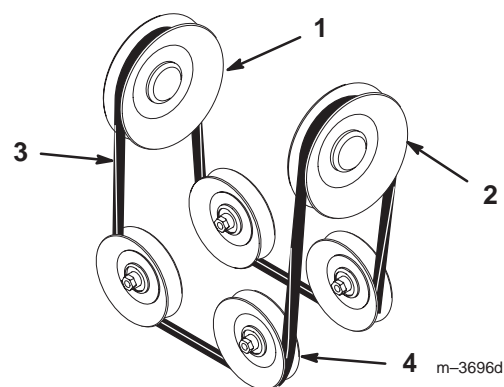

Figure 26
- C. Remove the snowthrower belt from around the engine PTO pulley (Fig. 26).